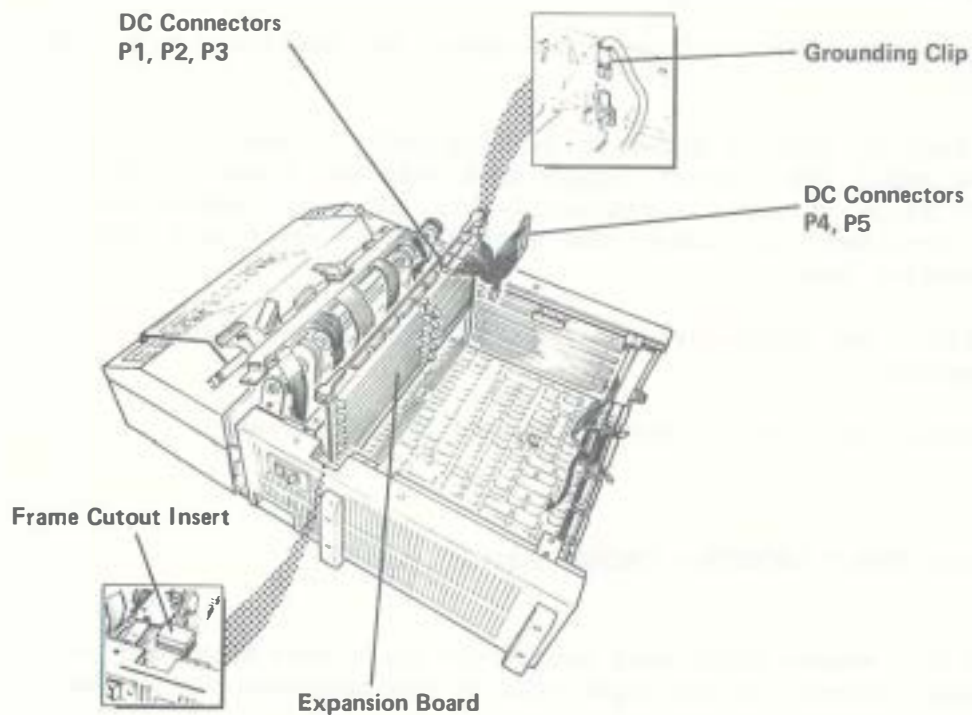

Figure 5-11. Expansion Board
6. Disconnect the AC line connector and gently lift the power supply out of the processor unit. See Figure 5-11.
1. Reconnect the AC line connector and replace the power supply by gently lowering it back into position. Be sure that the printer/plotter AC cable is positioned under the power supply support bracket, and that this bracket interlocks with the bracket on the expansion board. See Figure 5-11.
7. Disconnect the grounding clip from the processor unit frame and remove the DC cable assembly. See Figure 5-11.
8. Remove the frame cutout insert on the right side of the processor unit above the Power switch. See Figure 5-11.
3. Replace the frame cutout insert. See Figure 5-11.
4. Reconnect the grounding clip to the processor unit frame. See Figure 5-11.
5. Reconnect the three DC connectors to the expansion board. See Figure 5-11.
4. Reconnect the keypad circuit board connector and press the two retaining clips on each side of the connector back into place. See Figure 5-11.